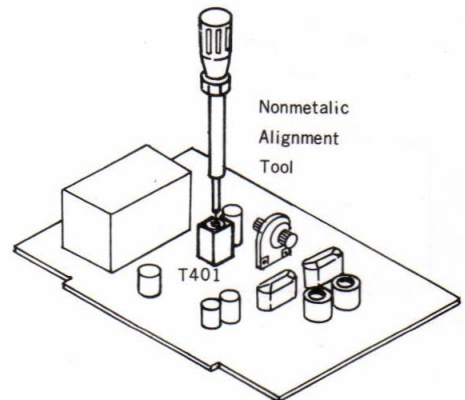

Fig. 4-4 Switching transformer adjustment
2. Check for distortion on each channel. Adjust the core of T401 (switching transformer) on the receiver's multiplex decoder board as shown in Fig. 4-4 to obtain minimum distortion.